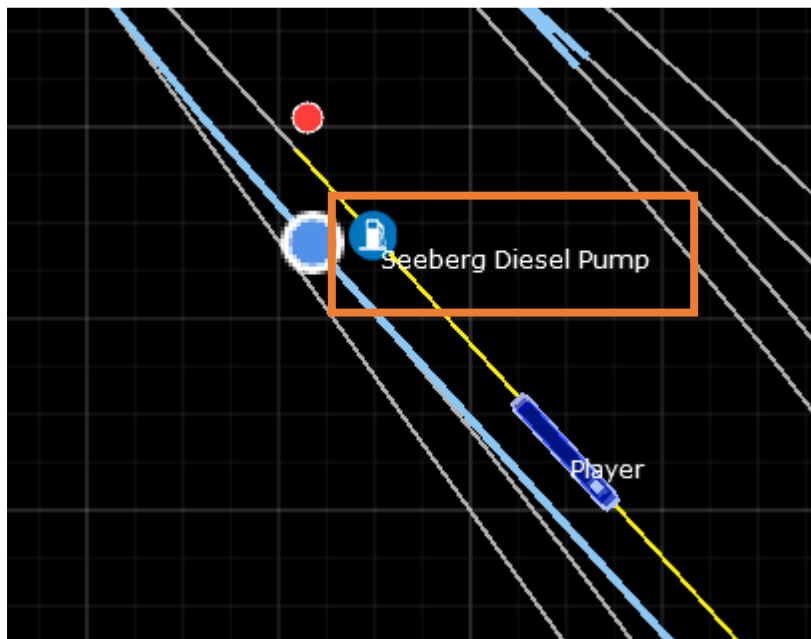

Figure 58. Fuel point at the 2D map
3. Set the correct diesel tank, either by selecting it from the marker list or by pointing at the marker in the 2D map (Figure 58).